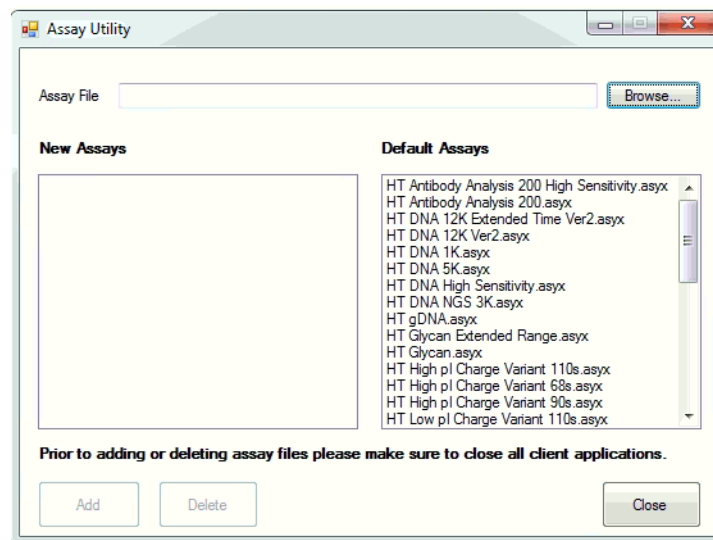

Figure 14. Assay Utility Window
- 4 If you are prompted to allow the program to make changes to your computer, click the **Yes** button. The Assay Utility window opens as shown in Figure 14.